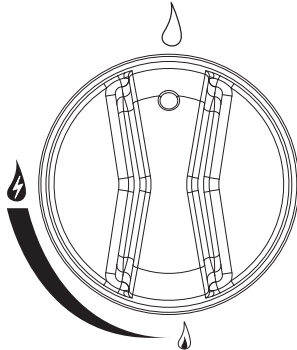

Figure 3
4. Spoon leak check solution at all “X” locations (Figures 3)